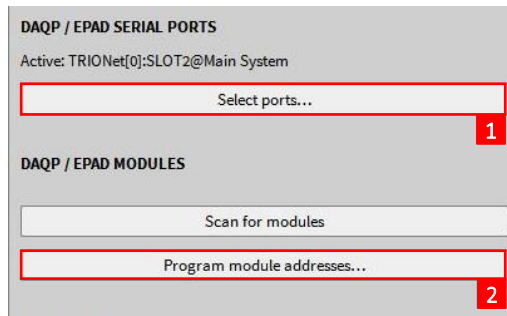

Figure 2-27: Programming module addresses
- Enable the Serial Port(s) on which the modules are connected (see ① in Figure 2-27)
- Click on *Program module addresses...* (see ② in Figure 2-27).